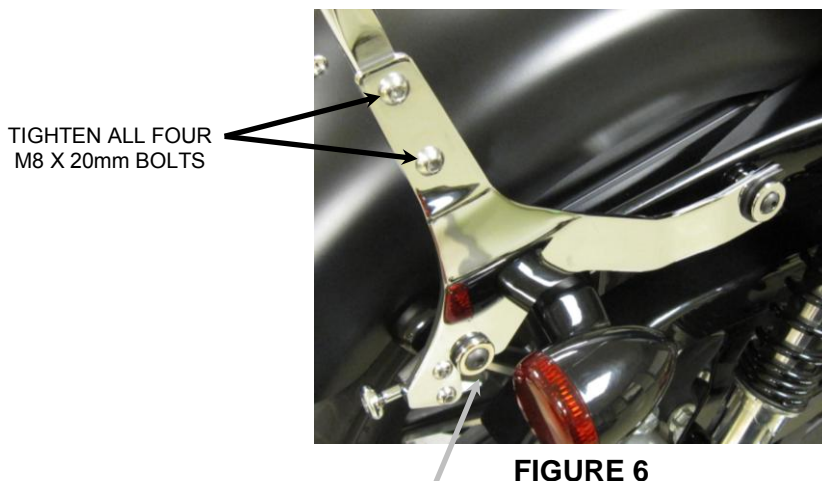

FIGURE 6
15. Pull backward on both detachable latch knobs and then push downward on the backrest to allow the backrest to sit completely on the rear mounting bushings. Then release the detachable latch knob to fully engage the latch pin underneath the mounting kit bushing. See **FIGURE 6**.
16. Always check to make sure both detachable latch pins are fully engaged on the bottom of the mounting kit bushing. Failure to fully engage the detachable latch pin could cause the backrest to come loose while riding. See **FIGURE 6**.
17. Pull backward on the top of the sissy bar and then tighten all four M8 X 20mm bolts. See **FIGURE 6**.